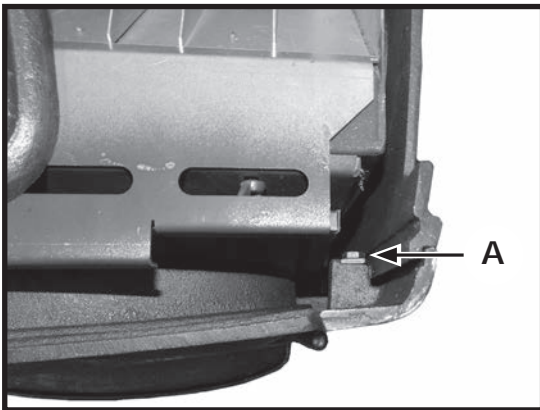

Fig. 95: Front panel bolt
4. Loosen - don't remove - the upper and lower front panel bolts from both the right and left sides of the front panel. (call-out **A**, Fig. 95 & 96)